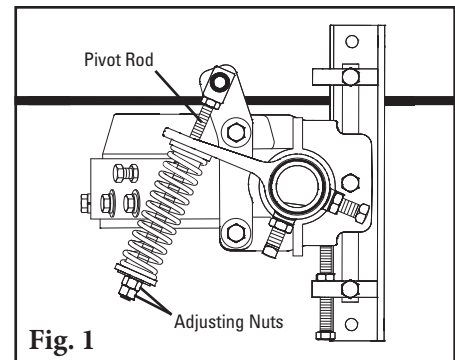

Fig. 1
1. **Release the blade tension.** Loosen the tension adjusting nuts on the tensioner pivot rods, allowing the pole to rotate the blade down (Fig. 1).